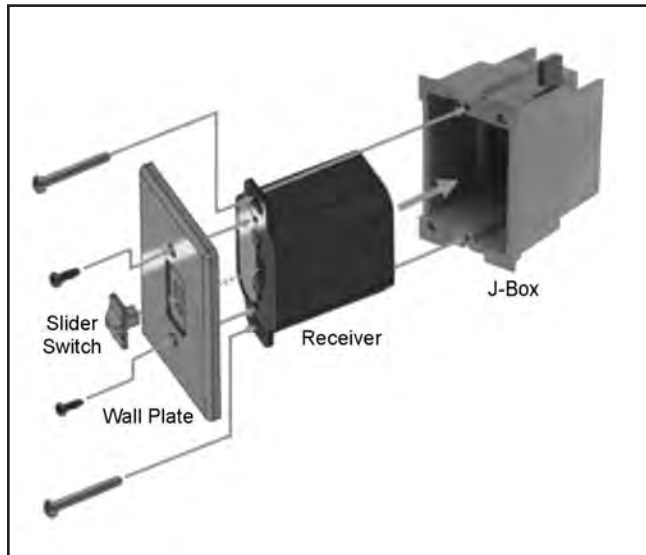

Figure 60: Wall Mounting the Receiver.
2. Install the Receiver in the Junction box using the existing J box screws (Figure 60).
3. Insert the four (4) AA type batteries in the battery compartment with the correct polarity.
9. Using the two (2) screws provided secure the cover plate to the Receiver.